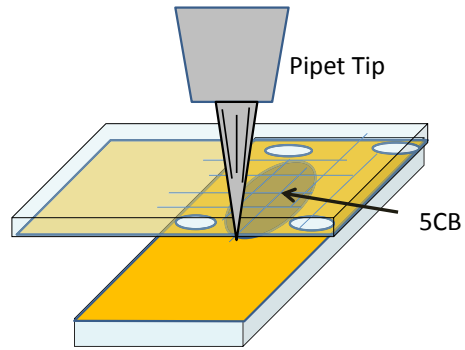

Figure 11: Filling pixel with 5CB liquid crystal with capillary action.
**Step (3)** After your super glue has dried, go to the liquid-crystal station and use a 10  $\mu\text{L}$  pipet to capillary fill your pixel with 5CB liquid crystal. The drop should be placed at the edge of the crossed slides, as shown in Figure 11. With the help of gravity (i.e., tilting appropriately if needed), the 5CB molecules drop will be pulled between the slides by capillary forces. The filling may take a few minutes. Wipe up any excess 5CB with a chemical wipe.